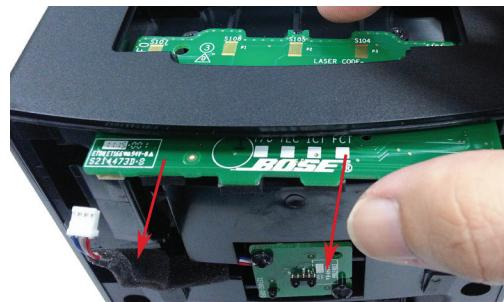

Figure 17. Keypad, Removal
4.8 Figure 17. Slide the keypad PCB out from the cabinet.